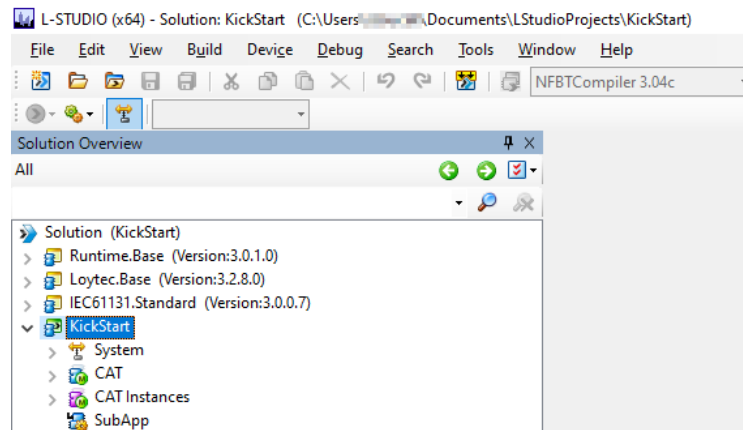

Figure 52: Blank L-STUDIO solution.
- This create a blank solution named 'KickStart' as shown in Figure 52